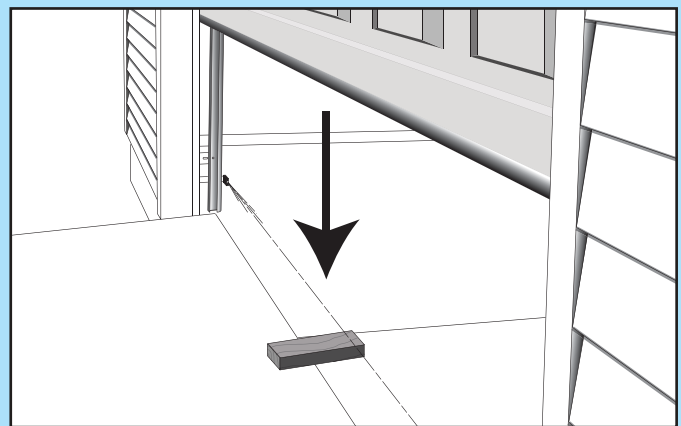

FIG. 6-6 2 x 4 under center of door opening.
- Place a 2" x 4" board (laid flat) under **center of garage door opening** (FIG. 6-6).